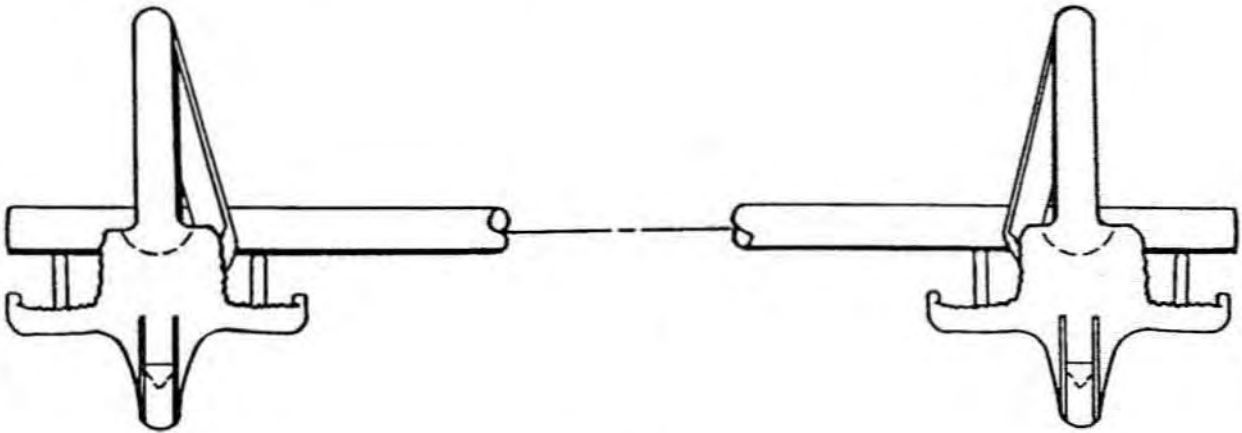

Figure 4
5. The camber of the skis should be flat for initial setup. To measure the camber lay the ski lineup bar, part no. 5332606, across the skis, Fig. 4, as shown and adjust the radius rods accordingly.